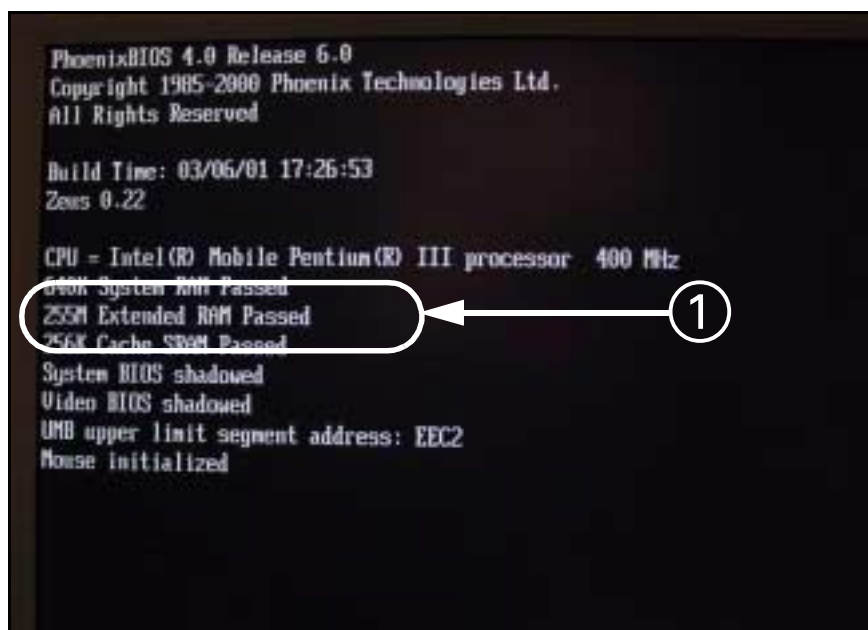

Figure 10-11 Boot-Up Self-Test Screen
- 3) During boot up, verify memory test passes (① in Figure 10-11).